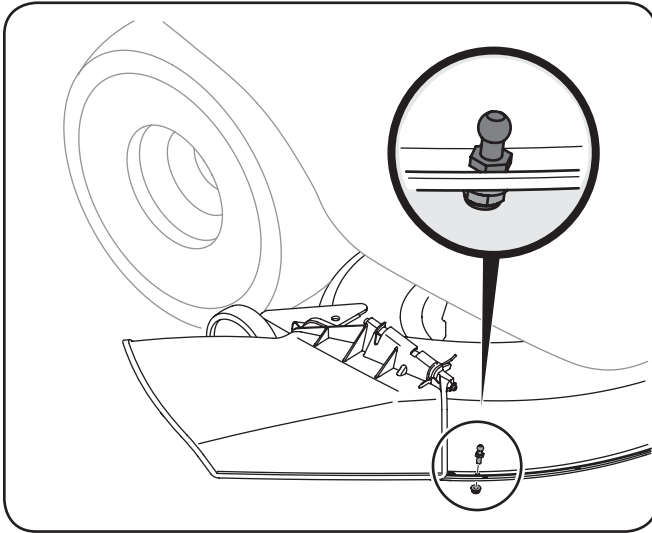

Figure 4-19
10. Install the ball pin (711-04069) from hardware pack 689-00091 into the hole in the front of the mower deck as shown in Figure 4-19, and secure with the included flange lock nut (712-04064).